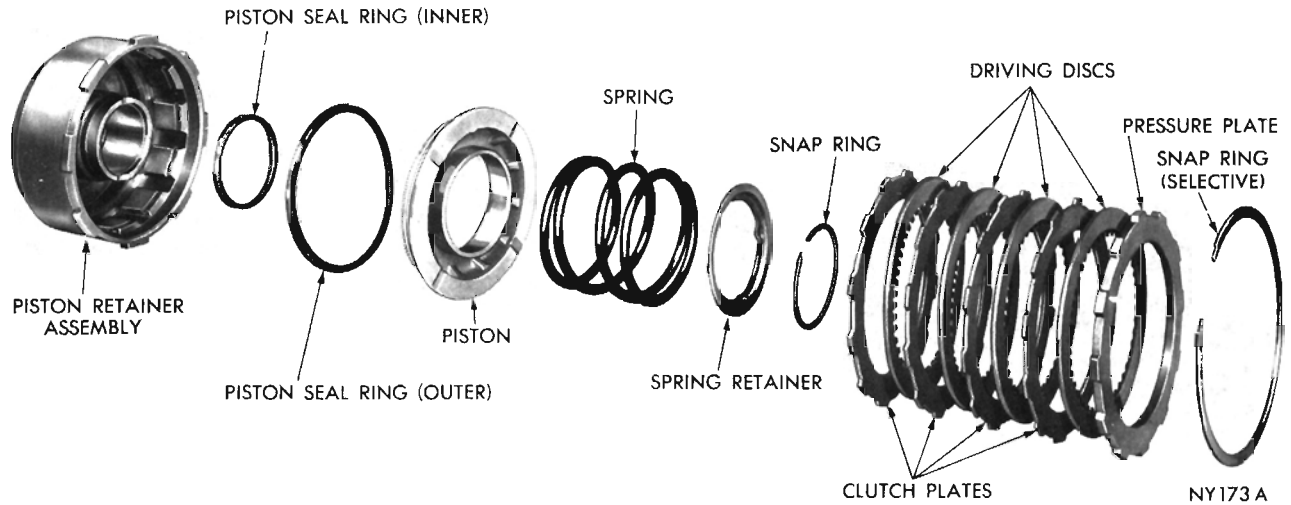
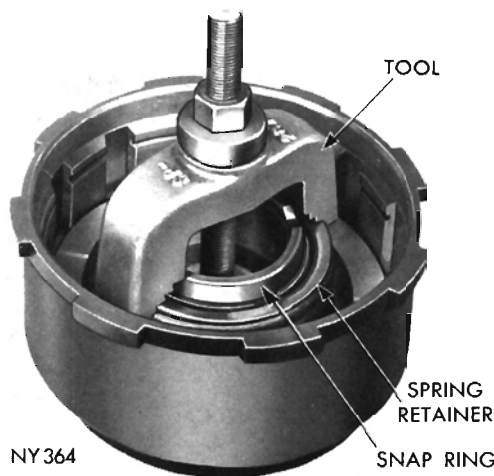

Fig. 67—Front Clutch Disassembled (A-904)
Fig. 68—Removing or Installing Front Clutch Retainer Snap Ring (A-904)
Figure 67 shows a disassembled view of the front clutch assembly.
(1) Remove large selective snap ring that secures pressure plate in the clutch piston retainer. Lift pressure plate and clutch plates out of the retainer.
(2) Install compressor, Tool C-3575 over piston spring retainer (Fig. 68). Compress spring and remove snap ring, then slowly release tool until spring retainer is free of the hub. Remove tool, retainer and spring.
(3) Invert clutch retainer assembly and bump it on a wood block to remove the piston. Remove seal rings from the piston and clutch retainer hub.
(1) Lubricate and install inner seal ring on hub of clutch retainer. Make sure lip of seal faces down and is properly seated in the groove (Fig. 67).
(2) Lubricate and install outer seal ring on clutch piston, with lip of seal toward bottom of clutch retainer. Place piston assembly in retainer and, with a twisting motion, seat piston in bottom of retainer.
(3) Place spring on piston hub and position spring retainer and snap ring on the spring. Compress spring with Tool C-3575 (Fig. 68), and seat snap ring in hub groove. Remove compressor tool.
(4) Lubricate all clutch plates, install one steel plate followed by a lined plate until all plates are installed. Install pressure plate and selective snap